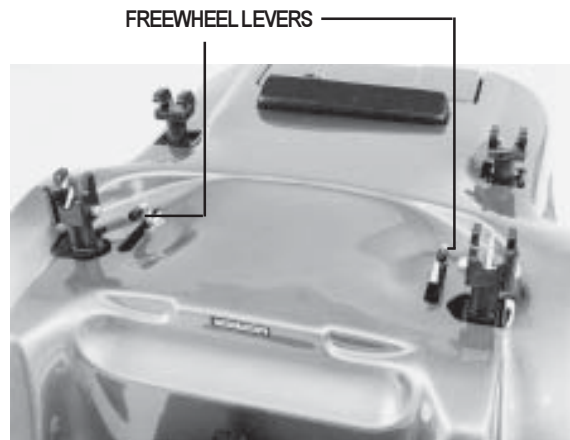

Figure 7. Drive Engaged
2. Turn the freewheel levers inward to engage the drive motors. See figure 7.